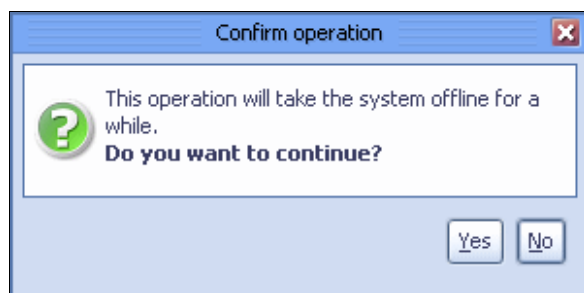

Figure 3-11 Create new library - Confirm operation window
14. The Confirm operation window opens (Figure 3-11). Click **Yes**. The ProtecTIER system temporarily goes offline to create the library.